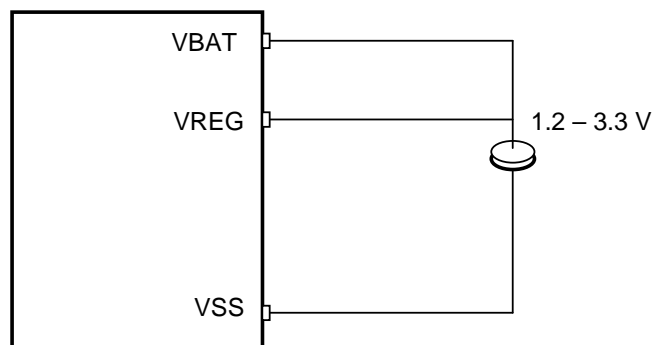

Figure 2-7. Supply configuration for ROM circuit operation by-passing the internal regulator.
3. With the internal regulator short circuited (i.e. by connecting VREG to VBAT, see Figure 2-7). In this case, the current consumption will increase with VBAT.